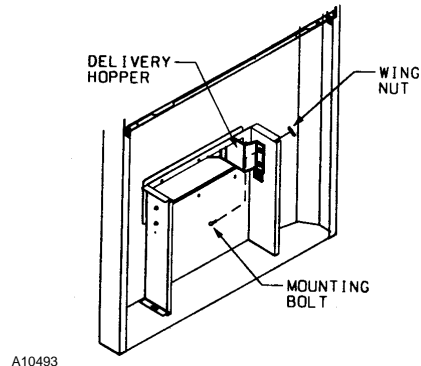

Figure 6. Delivery Hopper Installation
5. The Delivery Hopper is taped inside the bottom area of the door. Remove and assemble as shown in Figure 6. Secure with the four (4) bolts and wing nuts provided.